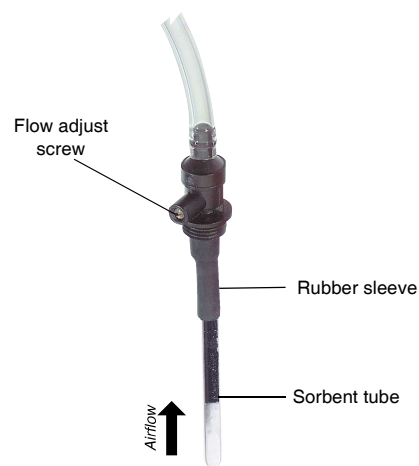

Figure 3. Single Adjustable Tube Holder with Sample Tube
Using Single Adjustable Tube Holder (Figure 3)
4. Insert an opened sorbent tube into the rubber sleeve (Figure 3) of the low flow tube holder **with the arrow on the tube pointing toward the tube holder**.
6. Using flexible tubing, connect the exposed end of the sorbent tube to the calibrator outlet (suction port). Loosen the brass flow adjust screw (Figure 3) on the tube holder. Adjust the flow rate by turning the flow adjust screw (**counterclockwise to increase, clockwise to decrease**) until the calibrator indicates the desired flow. Take a minimum of three readings and record the average flow rate, as per OSHA/NIOSH instructions.